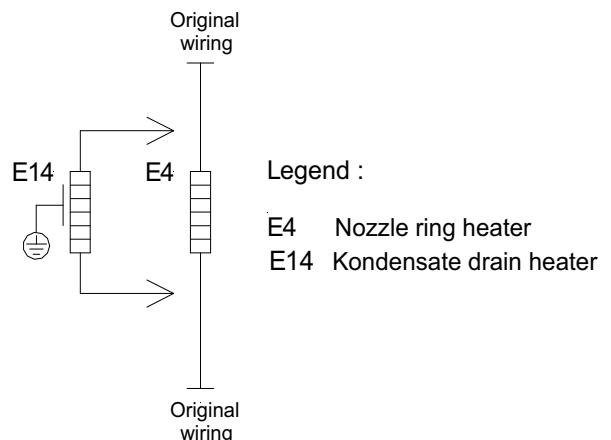

Fig. 1.6:
- 4) Connect the line in parallel to the nozzle ring heater E4 (see Fig.1.6 on pag. 2).